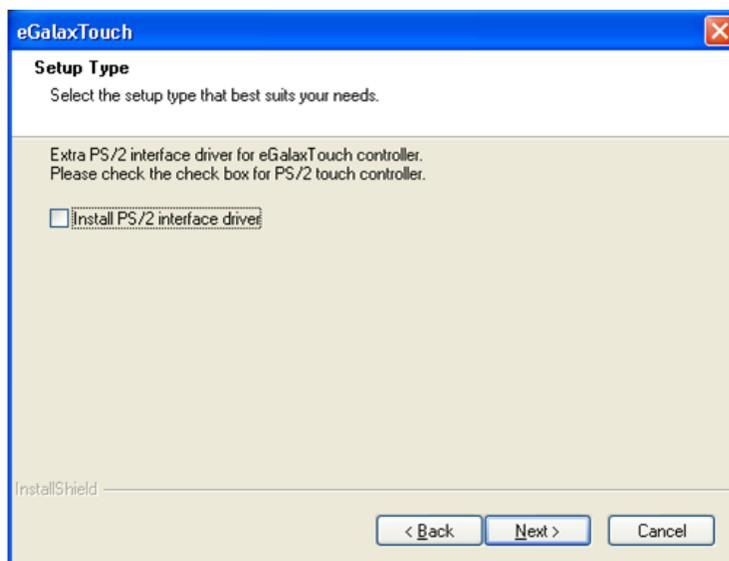

Figure 3-4 PS/2 Interface Driver Screen
8. Run the Setup.exe file. Click **Next** in the next screen that appears (Figure 3-4).